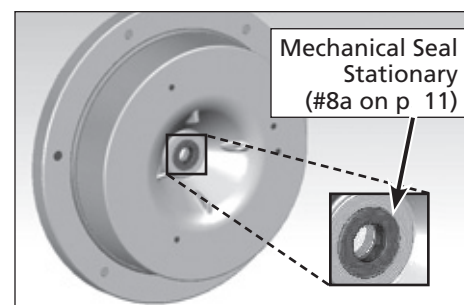

Figure 7
- With a screw driver carefully pry old stationary seat from seal plate (see Figure 7). DO NOT SCRATCH SEAL BORE.